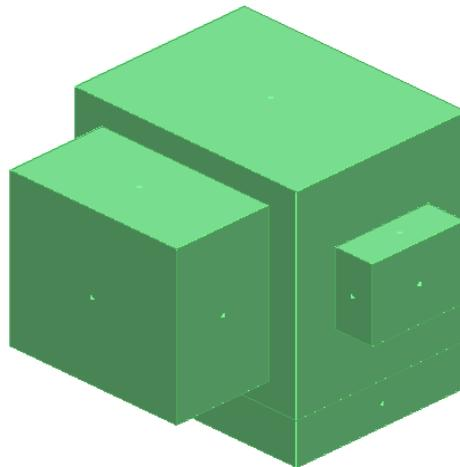

Figure 57: The Placed Design Equipment: Base
31. Click in the graphic view to place the shape in the model. The designed equipment is shown in Figure 57.